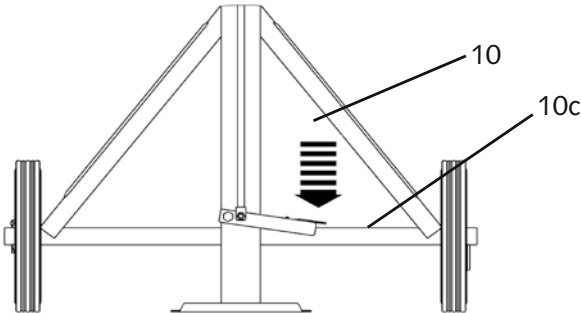

Fig. 11
- Put the connecting rod (10) on the lower position by foot. (Fig. 11).